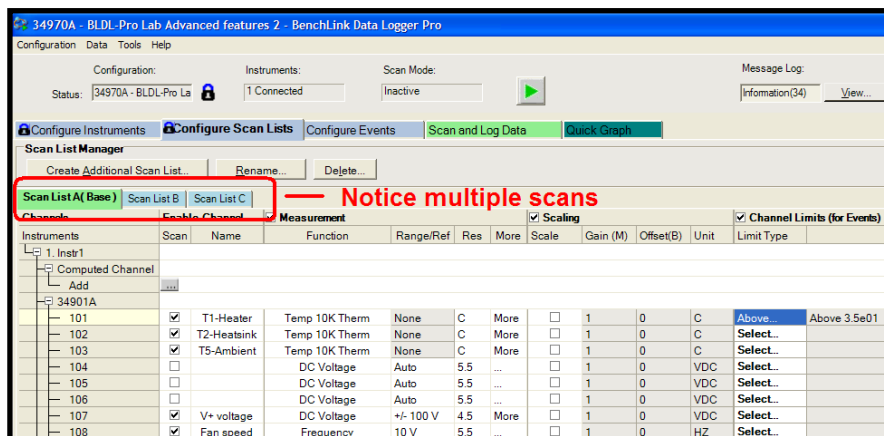

Figure 19 – BLDL-Pro supports multiple Scan Lists and conditional branching
- Inspect the **Configure Scan Lists** tab. Notice there are multiple scans shown (figure 19). BLDL-Pro supports multiple scans and conditional branching from scan to scan.
NOTE: your temperatures measured and set-points may vary slightly from that shown in figure 19 (due to various hardware versions of the demo cube).